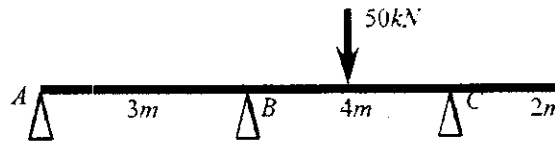

Fig. 1
| 2 | a) Analyse the continuous beam shown in Fig. 1, using three-moment theorem (Assume $EI$ as constant throughout the beam). Draw BMD. | (7)   |
| b) | Find the bending moments at B and C of the continuous beam shown in Fig. 1, using slope deflection method (Assume $EI$ as constant throughout the beam). | (8) |